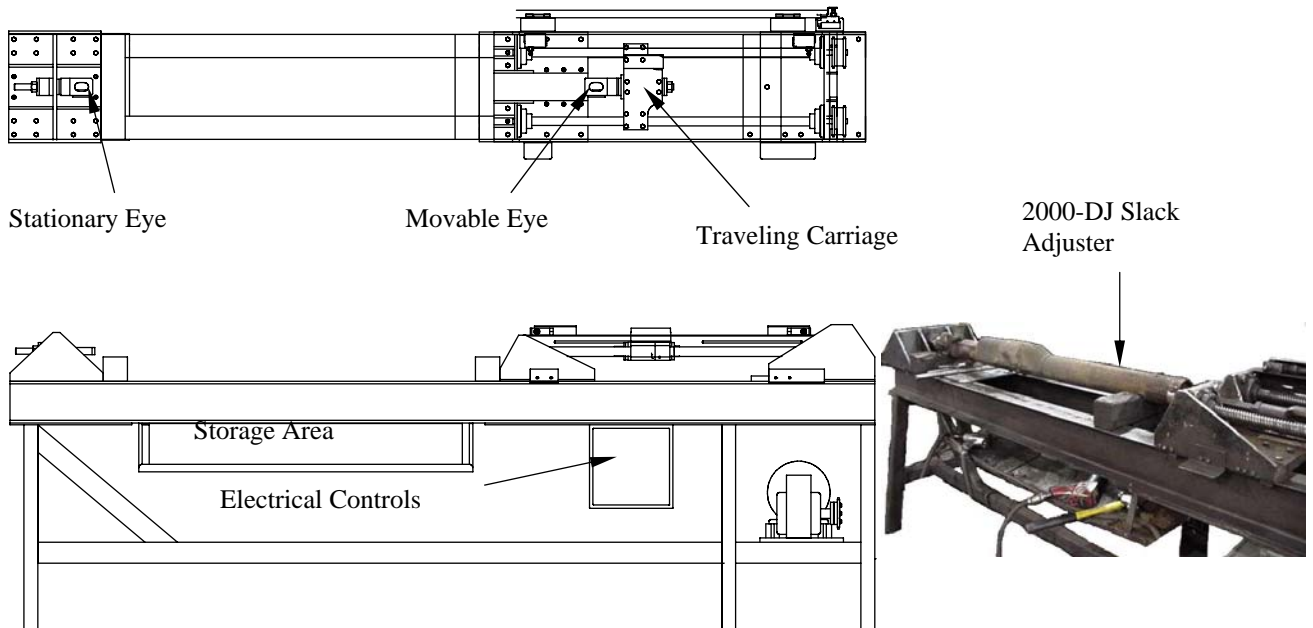

Figure 1: 2000-DJ Slack Adjuster Disassembly Fixture
5.1 Ellcon-National recommends that a slack adjuster disassembly fixture be used to tear down each unit (Figure 1).
- 6.1 Place the slack adjuster in the disassembly fixture (Figure 1) with fixed jaw pinned to stationary eye. Fixed jaw will be on operator’s left, facing the fixture.